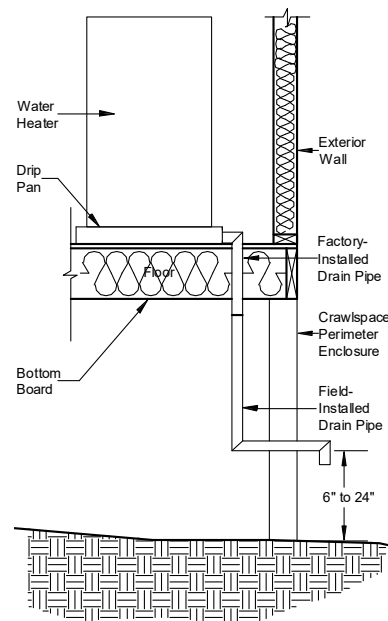

Figure 84. Water heater drip pan and drain
6. **Install water heater drip pan drain.** Assure that the drain for the water heater drip pan does not terminate under the home. Using the materials provided and the accompanying instructions run a drain line from the water heater drip pan through the wall or floor to the exterior of the crawl space. Terminate the line between six and 24 inches above grade. (**Figure 84**). Make the termination point rodent proof.